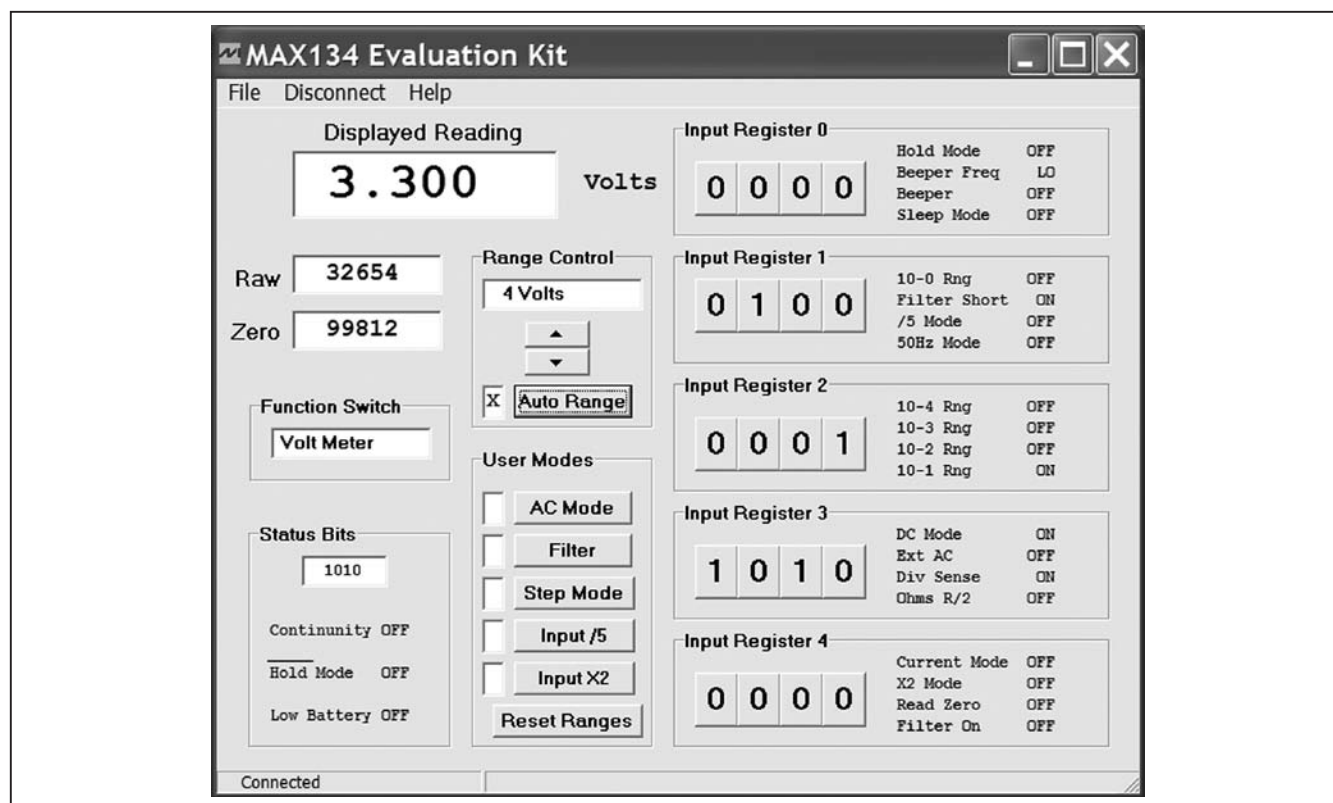

Figure 1. MAX134 EV Kit Application Program User Interface
- 5) Start the EV kit software by opening the icon in the **Start | Programs** menu. The EV kit window appears, as shown in Figure 1.
There are actually two programs required for the MAX134 EV kit. The first is the program running in the MAXQ2000 microcontroller located on the board. This C program, written using the Rowley CrossStudio compiler, can be modified for use in digital multimeters with or without the USB option. The second program is the application program running on a PC. This program serves as the user interface to monitor and control the operation of the board. The various MAX134 registers can be controlled and the conversion results displayed. Figure 1 shows the user interface.
The application display of Figure 1 consists of several sections. The value displayed on the board's LCD display is in the upper left-hand corner. The raw MAX134 ADC reading and the last zero reading appear just below. The displayed reading and raw ADC value are updated at the end of each conversion. Values from REG0–REG4 are displayed as the raw reading. The **Displayed Reading** is the **Raw** reading minus the **Zero** reading. The demonstration program updates the zero-reading display every 25th conversion—more frequently than required by typical applications.